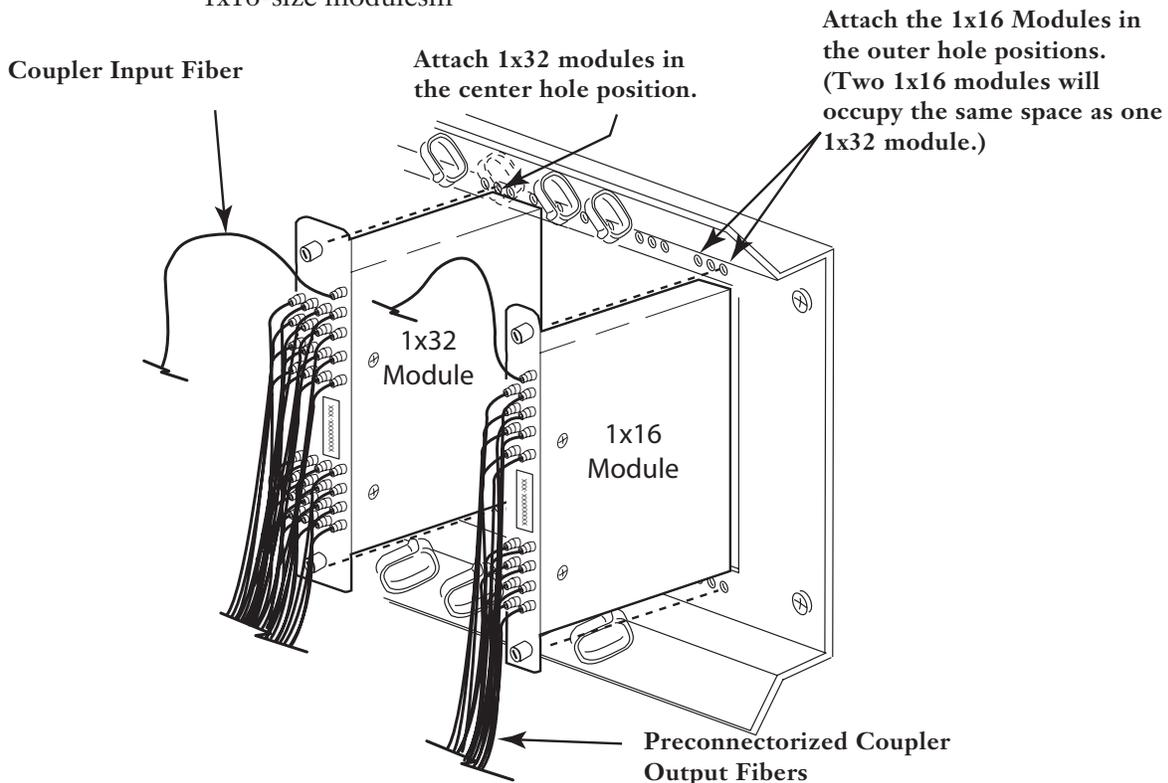

Figure 3 — Secure Coupler Module in Storage Area
Step 1 Remove coupler modules from their packaging and place each coupler module in the cabinet in the location shown in Figure 3. Note that two 1x16 modules occupy the same width as one 1x32 module.